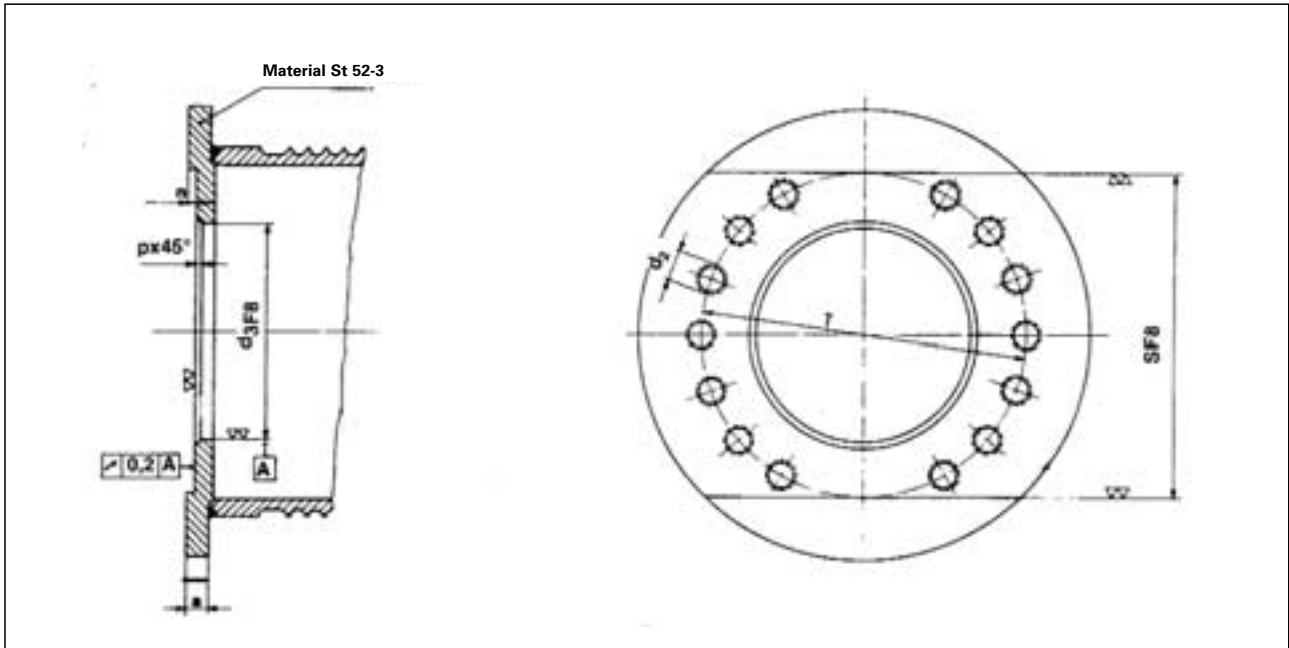

Fig. 13 Coupling side flange for cable drum.
c) Axial setting: Checks the distance "X" according to Fig. 13. If this distance is greater than 10 % of that shown in Table 4, the position of seating of the support-bearing must be reset.